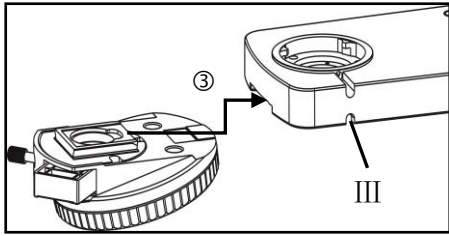

Fig 5
### 4-2-3 Install Nosepiece (fig 5)
Connect the plug of nosepiece with socket, then inset the dovetail groove of microscope according to the path ③ shown in figure 5. At last, use hex wrench tight up the bolt shown as Ⅲ.